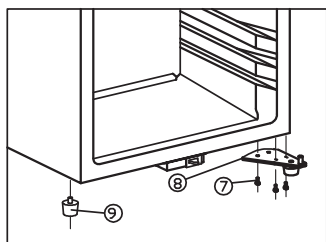

fig. 7.3
- Remove the long cabinet leg (9) on the left side, and shift it to the right end side. See fig.7.3
- Install the door on the axe of lower hinge (8) the same way it was removed, screw back the top hinge on the left.